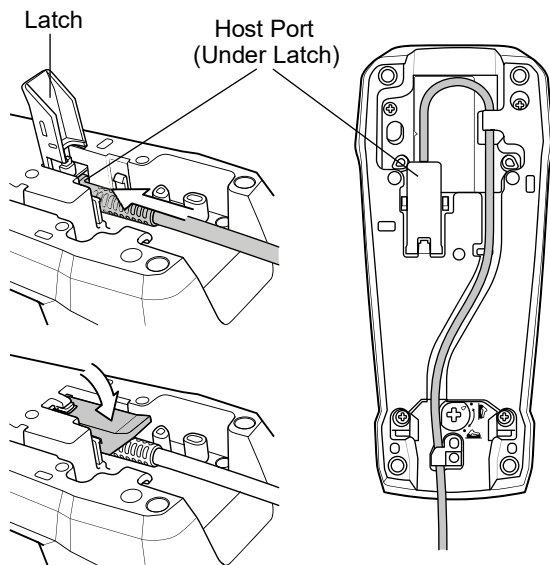

Figure 1-6 *Connecting the Cables to the Cradle*
3. Lift the latch and connect the interface cable into the cradle's host port and then close the latch. See Figure 1-6.